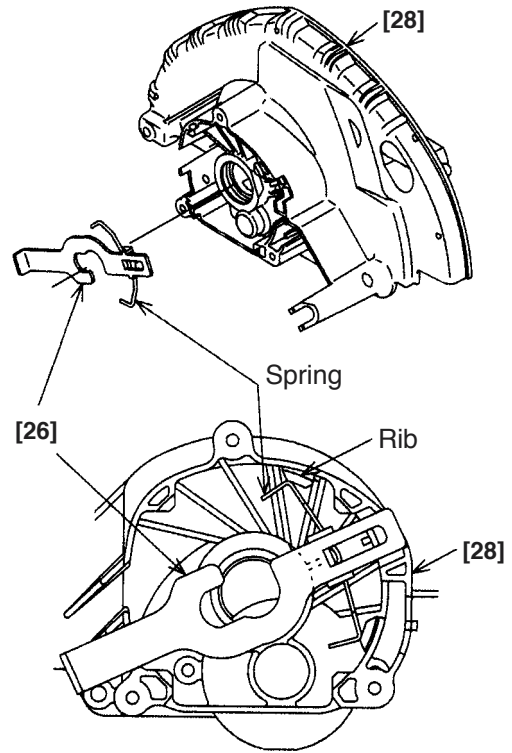

Fig. 3
(4) Reassembly of the Lock Lever [26] (See Fig. 3.)
(5) Lubrication